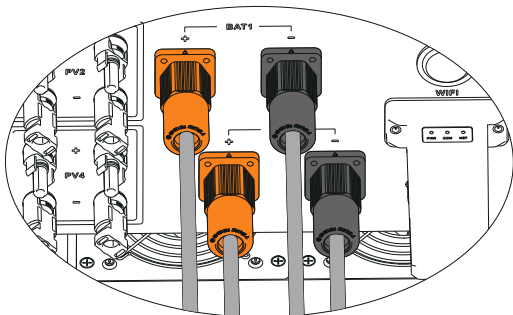

Figure 4.2-6 The battery terminal is connected to the inverter
Step 5. Connect the battery terminal to the inverter. Ensure that the battery polarity is connected correctly, as shown in Figure 4.2-6.